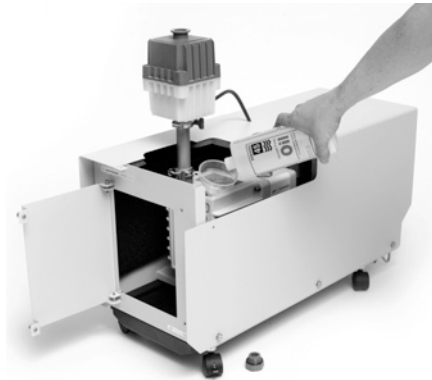

Figure 13 Filling the pump with oil.
- 13 Remove the access panel over the oil fill plug and refill the pump (see Figure 13). Refer to the pump documentation for more information.